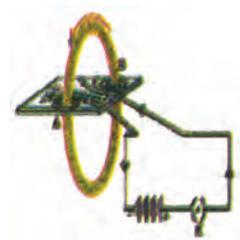

Fig. 4.9
- Connect the ends of coil in series with a battery, a key and a rheostat, as shown in Fig. 4.9.